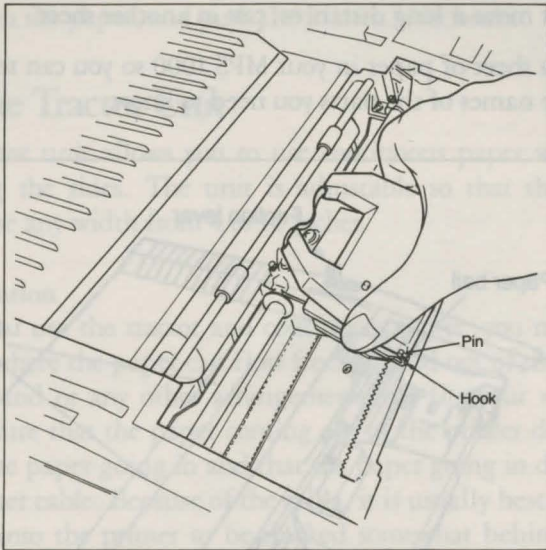

Figure 1-5. Ribbon cassette installation
5. Snap the cassette into place so that the exposed ribbon fits between the print head and the silver ribbon guide. See Figure 1-5. below.